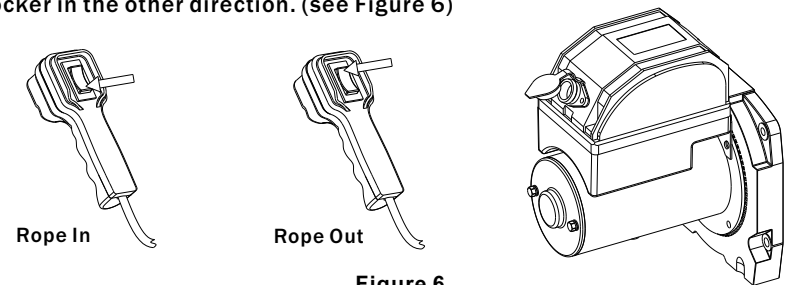

Figure 6
1. The handheld switch activates power to the winch motor. To connect the control, remove the cover on the receptacle and insert the plug end of remote switch. The plug on the control cord is keyed and will fit into the socket only one way. The switch trigger returns to the "Off" position when released. To change direction, press the rocker in the other direction. (see Figure 6)